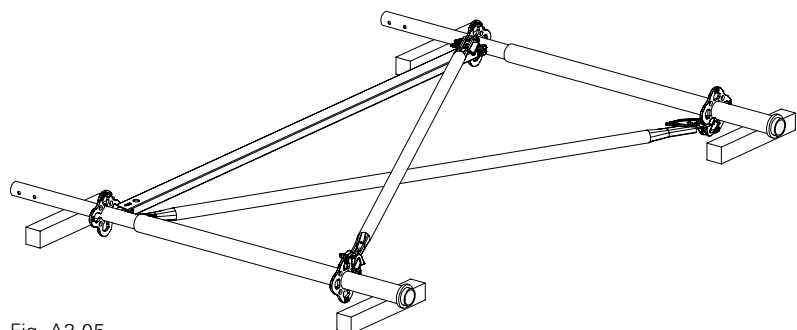

Fig. A3.05
- Turn the Head Element and mount the Shoring Brace on the other side in the same way. (Fig. A3.05)